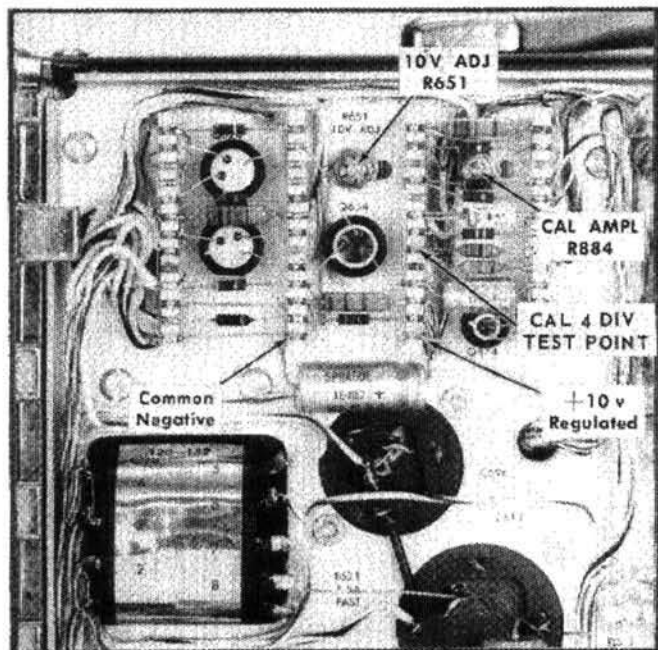

FIG. 6-1. Test point and adjustment locations for performing steps 1 and 3 (upper left side view).
- Connect a dc voltmeter across the 10-volt regulated supply at the points shown in Fig. 6-1.
- Adjust the 10V ADJ R651 control (see Fig. 6-1) for a reading of exactly 10 volts. Use a voltmeter known to be accurate.
- Adjust the CAL AMPL R884 control (see Fig. 6-1) for exactly 500 mv peak-to-peak vertical deflection of
- d. Connect the 1X probe to the CAL 4 DIV test point shown in Fig. 6-1. Adjust the test oscilloscope for stable display at a vertical deflection factor of 10 mv/cm. The amplitude at this point should be 40 mv, $\pm 3\%$.